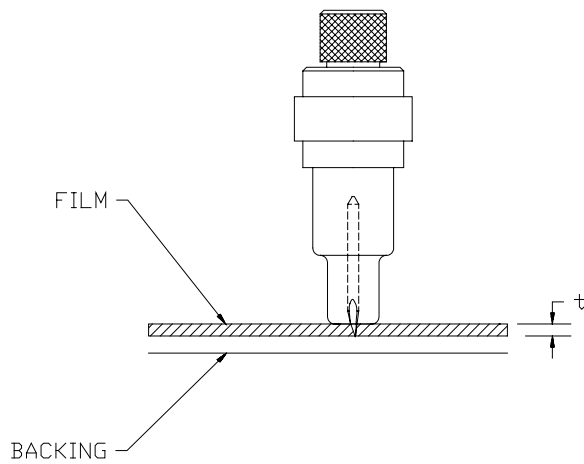

FIGURE 1-6
3. Extend the tip of the blade by the distance required for the desired cutting media (**t**), as shown in Figure 1-6. The blade should only extend beyond the knife holder sufficiently far to completely cut through the film layer yet avoid penetrating through the backing, which would risk cutting into and damaging the cutting strip.
1. Remove the knife by loosening the clamping screw and swinging the clamp arm back (refer to Fig. 1-6).